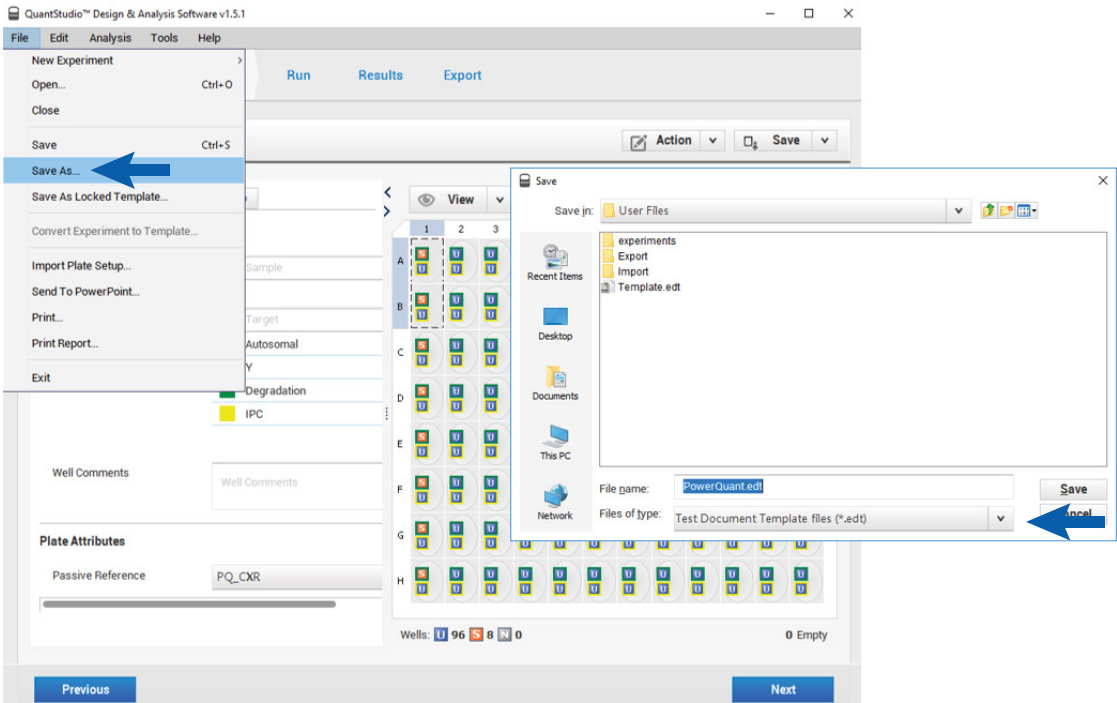

Figure 47. Saving a Test Document Template (.edt) file.
- From the File menu at the top of the screen, select **Save As**. Choose a location to save the template file as an .edt file (Figure 47). The template file can now be used to create future PowerQuant® experiment documents for the QuantStudio™ 5 Real-Time PCR System.